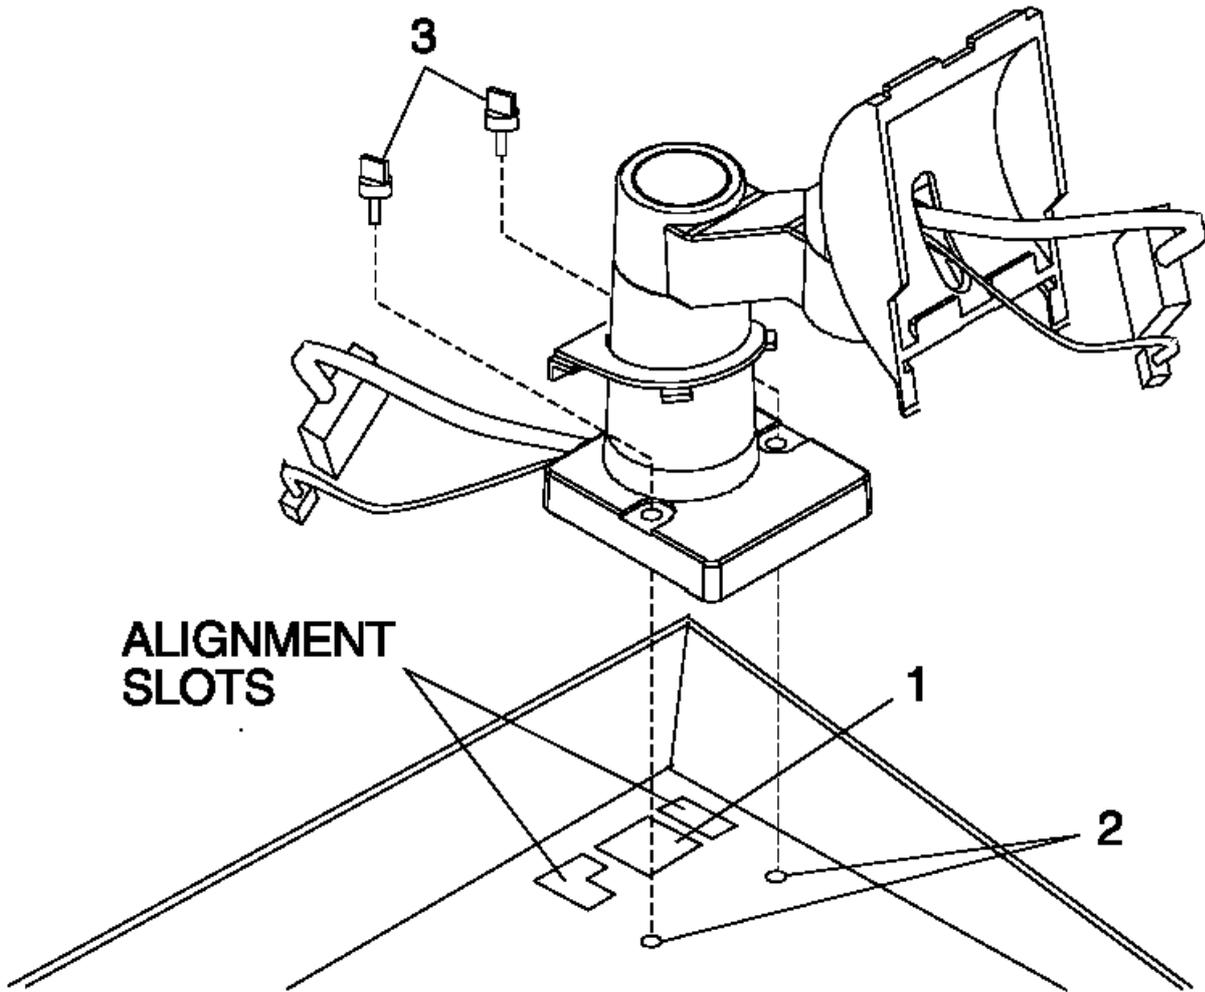

Figure 3-25. Integration Kit Removal From Terminal
2. Remove the integration kit from the terminal. See Figure 3-25 in topic 3.8.2.2.